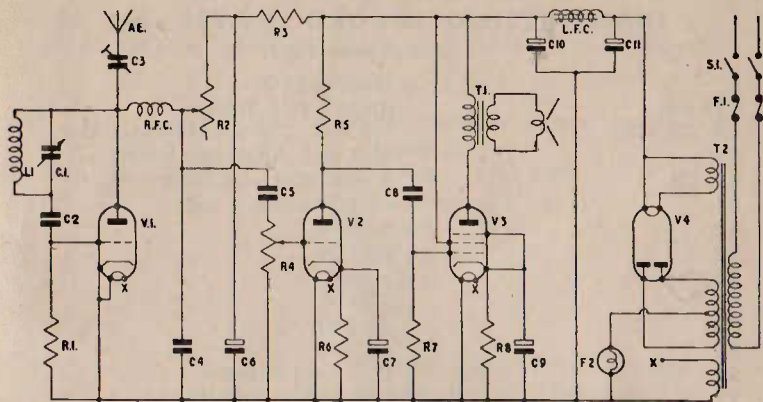

FIG. 25. V.H.F. Super Regenerative Receiver.
V.H.F. SUPER REGENERATIVE RECEIVER—Fig. 25.